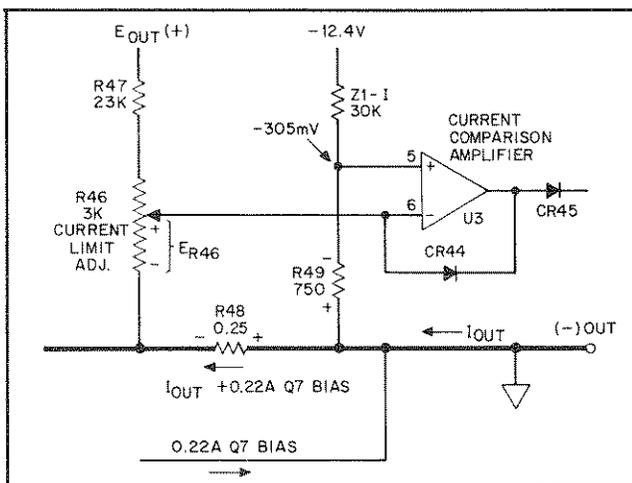

Figure 4-1. Foldback Current Limit Circuit in 6V Supply
4-28 **Current Foldback Circuit.** For this discussion refer to the Figure 7-1 schematic and to Figure 4-1.) The differential input signal to the current comparison amplifier is the algebraic sum of three circuit voltages:
2. The voltage across the lower part of R46 (see Figure 4-1). E_{R46} is proportional to the regulator output voltage and equals 440mV when the supply output is 6 volts.